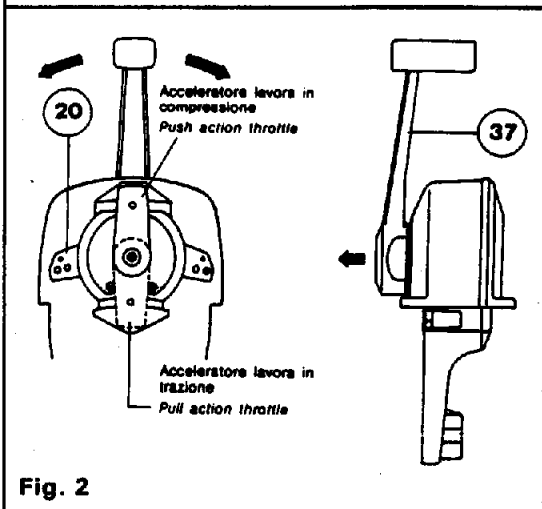

Fig. 2
- Before attaching lever 37 be sure the gear is in neutral (See rocker arm 20 as shown in Fig. 2).
### THROTTLE REVERSING (Fig. 2)
Be sure the control is in the neutral position (See rocker arm 20 as shown in Fig. 2).
Unscrew set screw and pull out the hub of lever 37 as shown by the arrow (Fig. 2).
### NEUTRAL WARM-UP (Fig. 2)